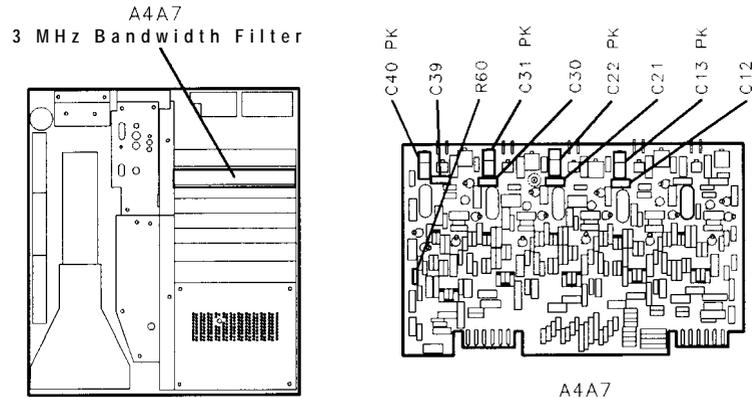

Figure 3-39. Location of 3 MHz Peak Adjustments
25. Adjust A4A7C13 PK for maximum peak-to-peak signal on Channel 2 display. See Figure 3-39 for location of adjustment. If unable to achieve a “peak” in signal amplitude, increase or decrease value of A4A7C12. Refer to Table 3-3 for range of values.
28. Adjust A4A7C22 PK for maximum peak-to-peak signal on Channel 2 display. See Figure 3-39 for location of adjustment. If unable to achieve a “peak” in signal amplitude, increase or decrease value of A4A7C21. Refer to Table 3-3 for range of values.
31. Adjust A4A7C31 PK for maximum peak-to-peak signal on Channel 2 display. See Figure 3-39 for location of adjustment. If unable to achieve a “peak” in signal amplitude, increase or decrease value of A4A7C30. Refer to Table 3-3 for range of values.
35. Adjust A4A7C40 PK for maximum signal amplitude on the CRT display. See Figure 3-39 for the location of adjustment. If unable to achieve a “peak” in signal amplitude, increase or decrease value of A4A7C39. Refer to Table 3-3 for range of values.